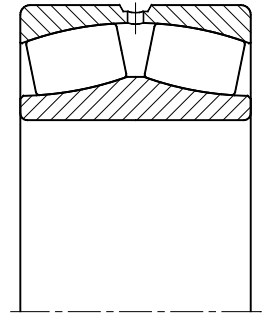

Fig. 2.10
**Spherical roller bearings** are two rows of barrel-shaped rollers running in a single spherically formed outer ring (fig. 2.10).